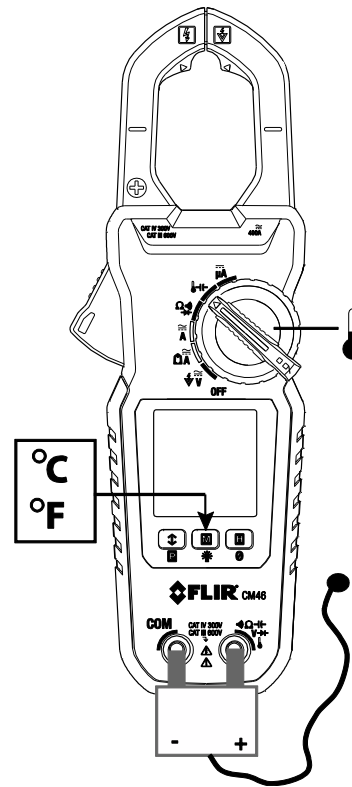

Figure 5-8 Temperature Measurements
4. Touch the tip of the temperature probe to the surface under test or simply hold the temperature probe in air to measure the air temperature (see Fig. 5-8).